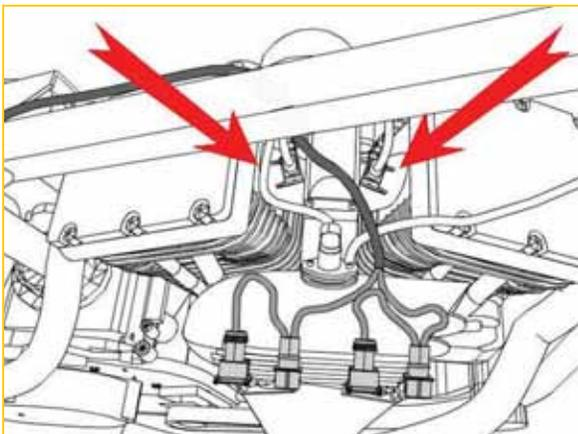

Fig 4
4. Underneath the fuel tank you will locate the fuel injectors (TOURING figure 4).